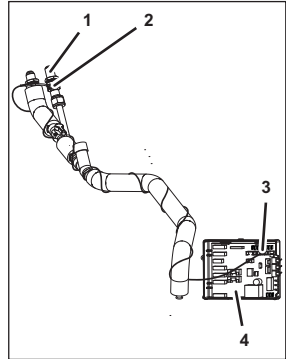

Figure 114
1. Disconnect the plug (Figure 114/3) of the temperature probe (Figure 114/2) from control system 1(Figure 114/4).
2. Turn the temperature probe (Figure 114/2) and remove from the connection (Figure 114/1).
3. Apply Loctite to the new temperature probe (Figure 114/2).
4. Attach the temperature probe (Figure 114/2) to the connection (Figure 114/1) by turning it.
5. Install the electrical cable of the temperature probe (Figure 114/2) within the unit.
6. Connect the plug (Figure 114/3) of the temperature probe (Figure 114/2) to control system 1(Figure 114/4).
1. Disconnect the plug (Figure 114/3) of temperature probe 1 (Figure 114/2) from control system 1(Figure 114/4).
2. Disconnect the plug (Figure 114/3) of temperature probe 2 (Figure 114/2) from control system 2(Figure 114/4).
3. Turn the temperature probe (Figure 114/2) and remove from the connection (Figure 114/1).
4. Apply Loctite to the new temperature probe (Figure 114/1).
5. Attach the new temperature probe (Figure 114/2) to the connection (Figure 114/1) by turning it.
6. Install the electrical cable of the temperature probe (Figure 114/2) within the unit.
7. Connect the plug (Figure 114/3) of temperature probe 1 (Figure 114/2) to control system 1(Figure 114/4).
8. Connect the plug (Figure 114/3) of temperature probe 2 (Figure 114/2) to control system 2(Figure 114/4).